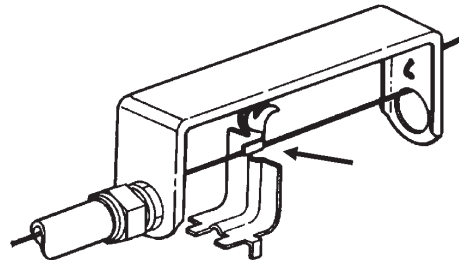

FIGURE 21
- Starting at the terminal detector, place the small tab of the detector linkage onto the wire rope. See Figure 21.